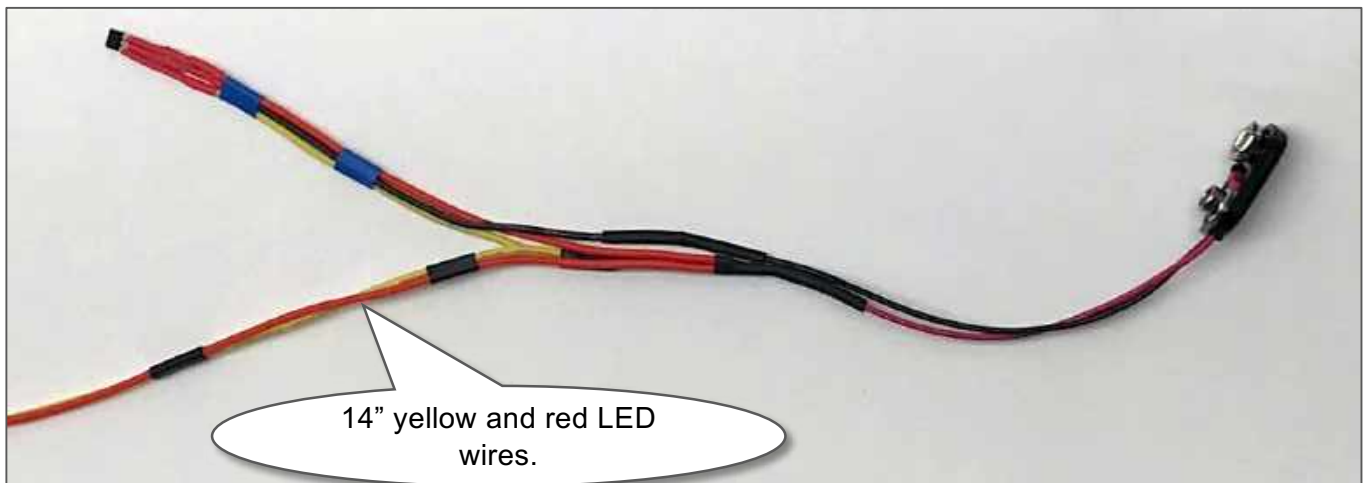

Figure 2.10. Completed Hall Effect Sensor/Power Cable with LED Wires
- Connect **black** wire from **Pin 2** and black battery connector wire (See Figure 2.10 on next page).